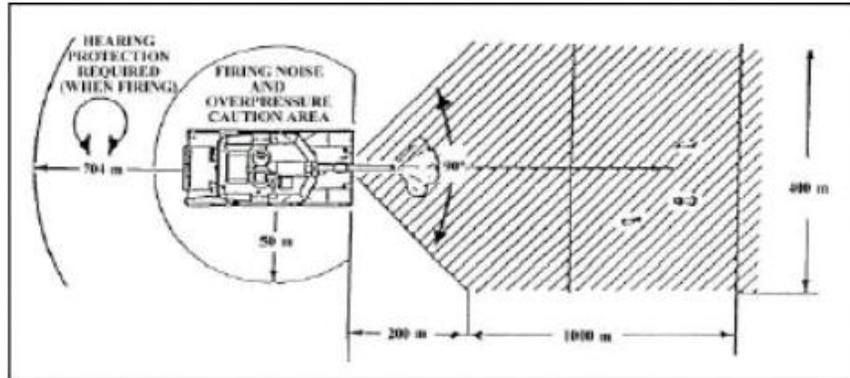

Figure 3. Danger Areas around a tank firing a 120mm main gun.
- **DO NOT** move in front of vehicles unless ordered to do so. Main gun discharge overpressure can inflict sever injury or death to forward dismounts. See Figure 3 (page 90) and warning below.